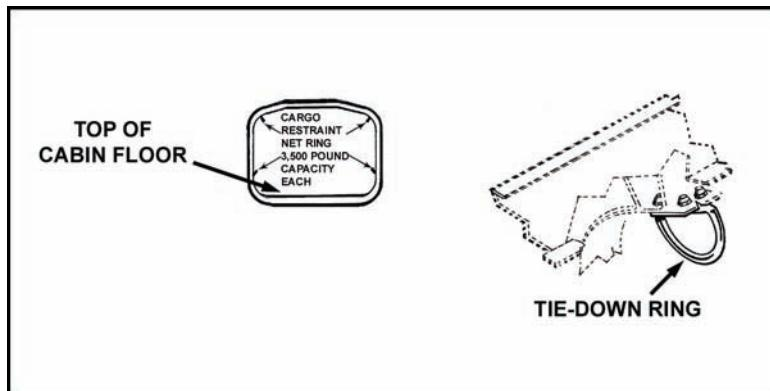

Figure 3-15. Secondary snaplink attaching point.
- (1) The rappel master ties a bowline with a half hitch about 1 1/2 feet from the standing end of the rope. He attaches the secondary snaplink to the adjacent overhead cargo restraint net ring (Figures 3-15 and 3-16).